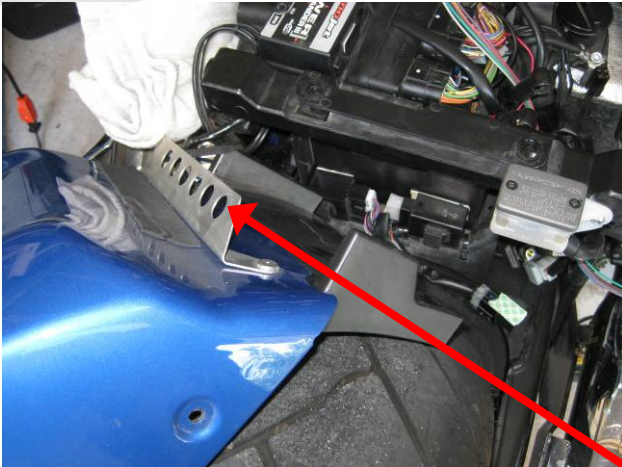

Fig.7
- Once you have removed the rear fender, you will remove the metal cross bracket and discard.(Fig.7)